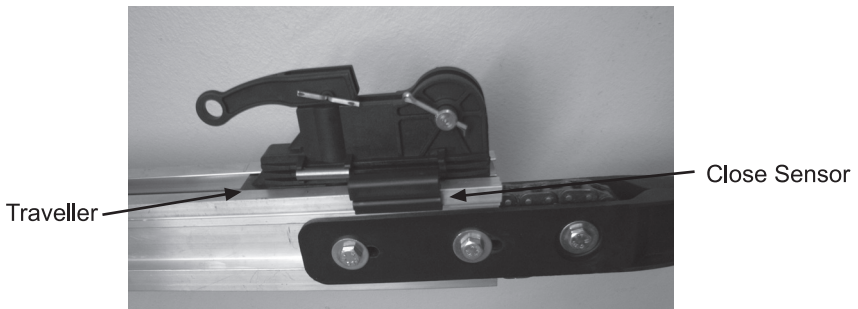

Figure 6B
4. Move the "CLOSED" sensor (sensor furthest away from the motor head) until it aligns with the traveler assembly. (See Figure 6B)